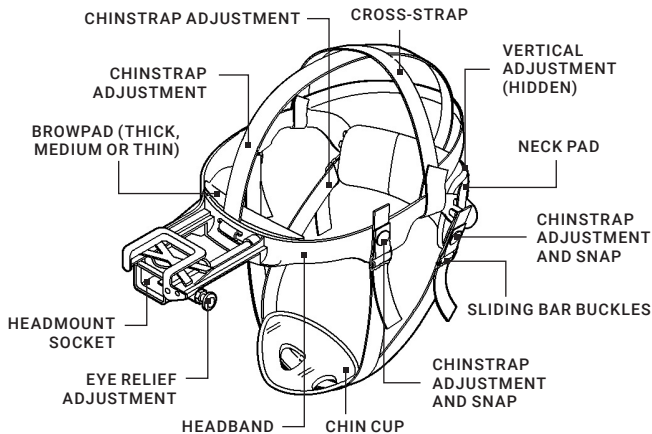

FIGURE 2-3. PVS-14 OMEGA HEADMOUNT ADJUSTMENTS
1. Before putting the head mount on, loosen the four ends of the chin strap (approximately two inches from the sliding bar buckles; see Figure 2-3).
If the head mount is too loose, remove the attached thin brow pad (Figure 2-3) and replace it with either the medium or thick brow pad (these are stored in the carrying case). Refer to Paragraph 3.1.2 for removal and replacement of the brow pads.
2. Snap the front and rear clasps into place (Figure 2-3).
3. Using both hands, grab the neck pad (Figure 2-3) and pull the harness over your head, sliding the neck pad down over the back of your neck.